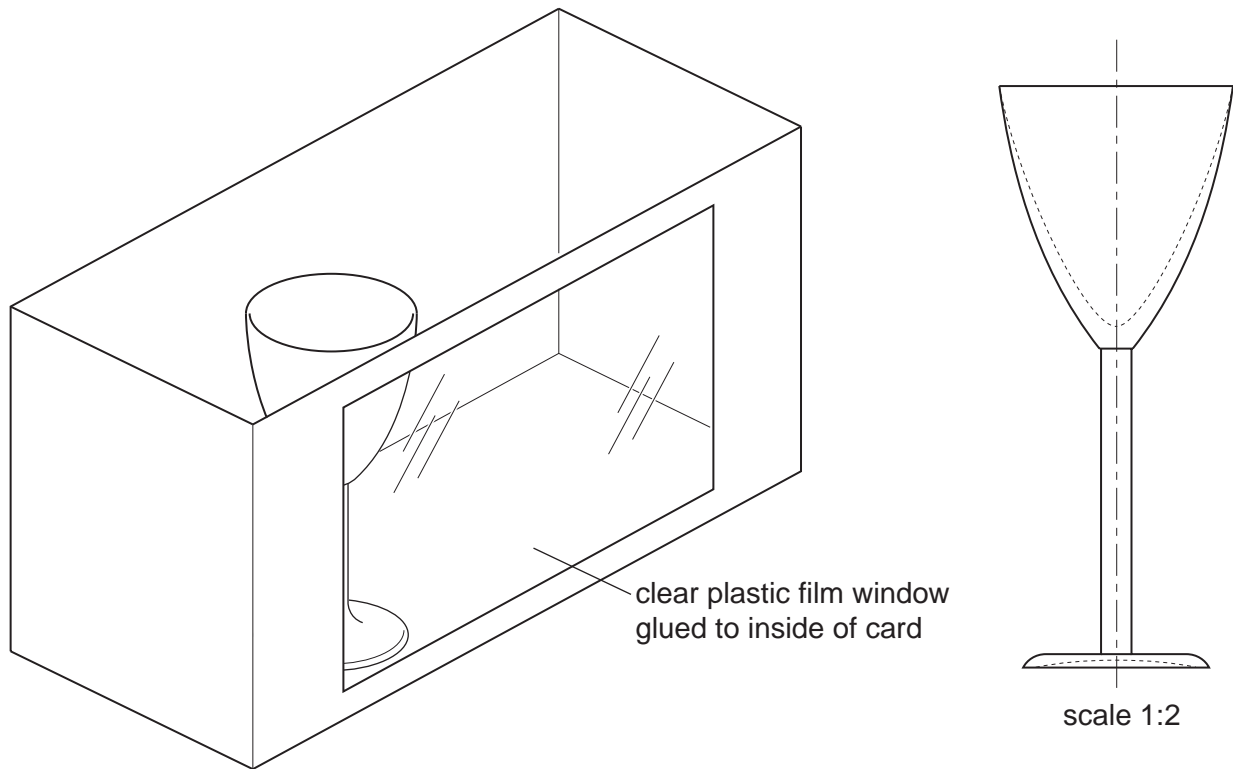

Fig. 9
- 8 Fig. 9 shows an incomplete idea for a piece of packaging which is to hold ten of the glasses shown.